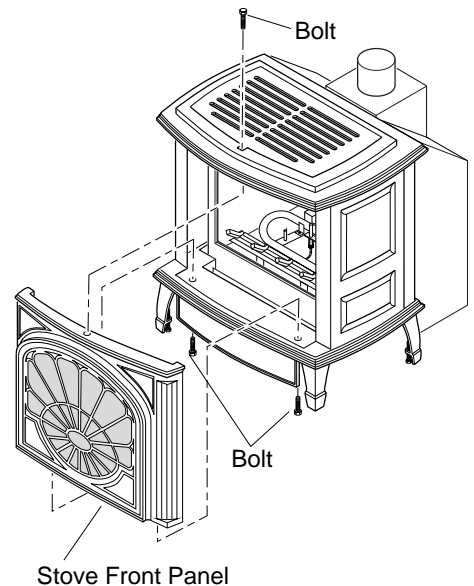

Figure 38 - Removing Front Panel from Stove
1. Remove 2 bolts from bottom of stove and one from the top of stove to remove front panel (see Figure 38).